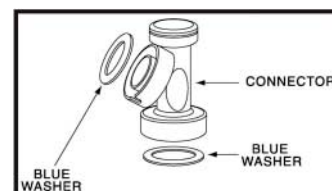

Figure 11
6. Make sure a blue Washer is inserted into both ends of the Connector. See **Figure 11**.